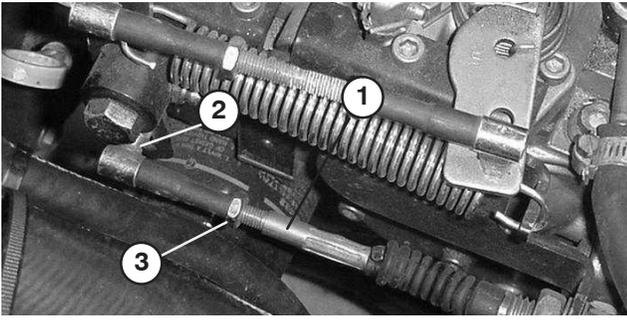
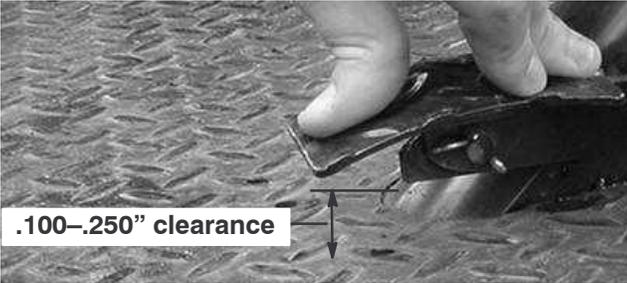

Figure 53
Figure 54
2. Adjust ball joint on accelerator cable (Fig. 53) to allow .100”–.250” of clearance between accelerator pedal arm and top of diamond tread floor plate (Fig. 54), when a 25 lb. force is applied to center of pedal. Tighten locknut.